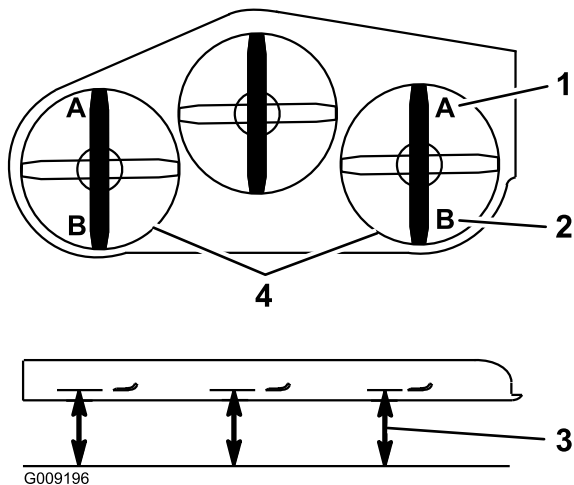

Figure 91
- 9. On both sides of the deck, measure from the level surface to the front tip of the blade (Position A) as shown in Figure 91.
15. On both sides of the deck, measure from the level surface to the back tip of the blade (position B) as shown in Figure 91.